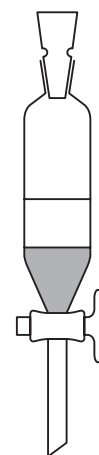

Figure 1 Separating funnel
- 4 Allow the mixture to stand until two layers have separated (Figure 1). Remove the stopper and run the lower layer into a clean 100 cm³ conical flask. Use the table of densities (Table 1) to decide which layer contains the 2-chloro-2-methylpropane.